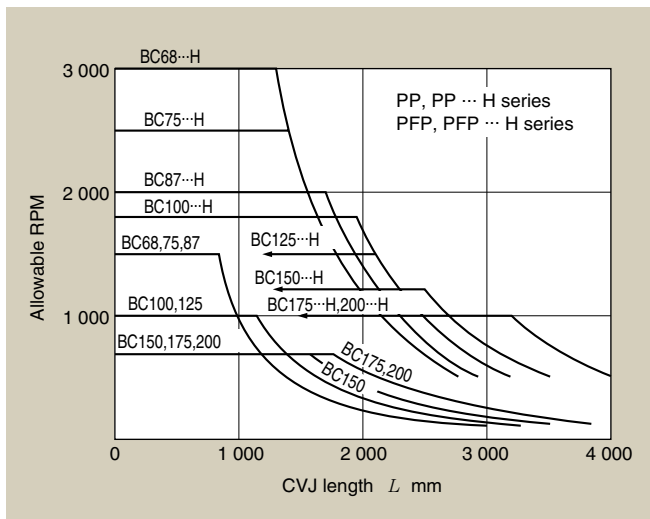

Fig. 15 Allowable RPM of CVJ
- With the long shaft series joints, depending on the shaft length, the working RPM of joint will be limited. Check the allowable RPM of the intended shaft against the data in **Fig. 15**.